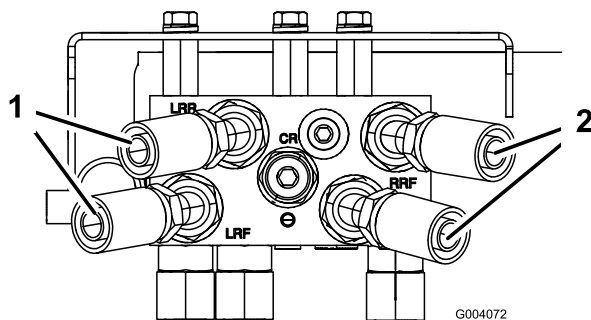

Figure 6
- Loosely thread the 45° fitting end of each hydraulic hose onto the straight fittings at the rear of the manifold (Figure 6).